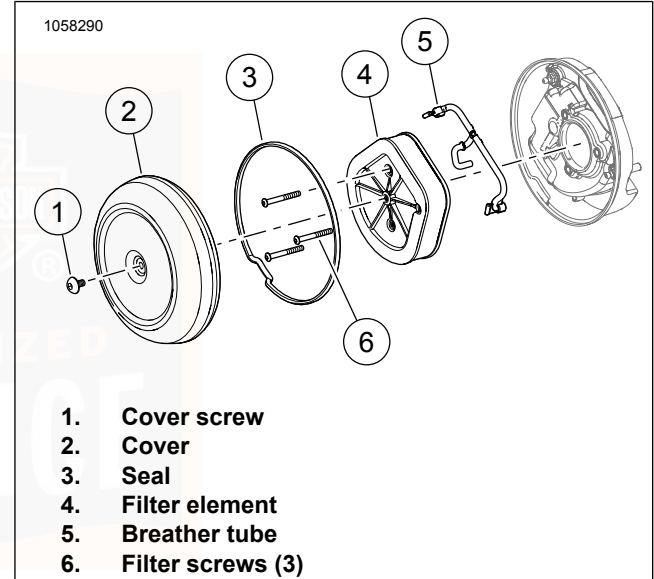
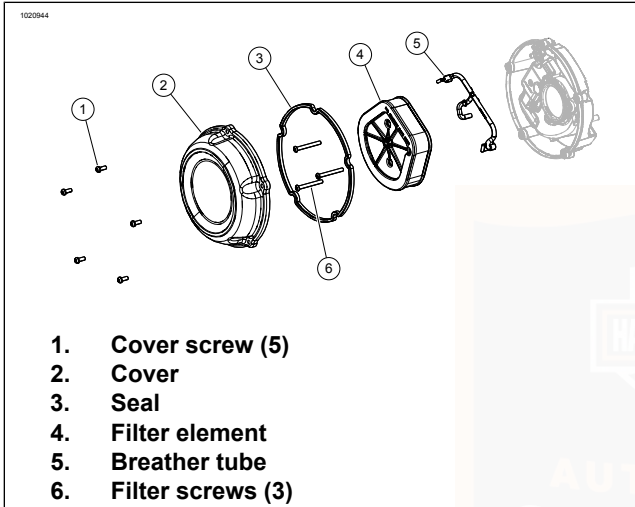

Figure 68. Air Cleaner: Single Screw
Figure 69. Air Cleaner: Five Screw
1. See Figure 68 or Figure 69. Remove air cleaner cover.
- a. Remove screws (1).
- b. Remove cover (2).
- a. Remove screws (6).
- b. Remove filter element (4) while pulling breather tube (5) from element.
3. Remove breather tube (5) from breather bolts.
1. See Figure 68 or Figure 69. Install filter element.
- a. Install breather tube (5) onto breather bolts.
- b. Install filter element (4) while pushing breather tube into element.
- c. Install screws (6). Tighten. **48–72 in-lbs** (5.4–8.1 N·m)
2. Verify that rubber seal (3) is properly seated and not damaged. Replace if necessary.
- a. Apply LOCTITE 243 MEDIUM STRENGTH THREADLOCKER AND SEALANT (BLUE) (99642-97) to threads of screw (1).
- b. Install cover (2).
4. Install screw (1).
- b. **Five-screw cover:** Install screws (1). Tighten in a star pattern. **48–72 in-lbs** (5.4–8.1 N·m)